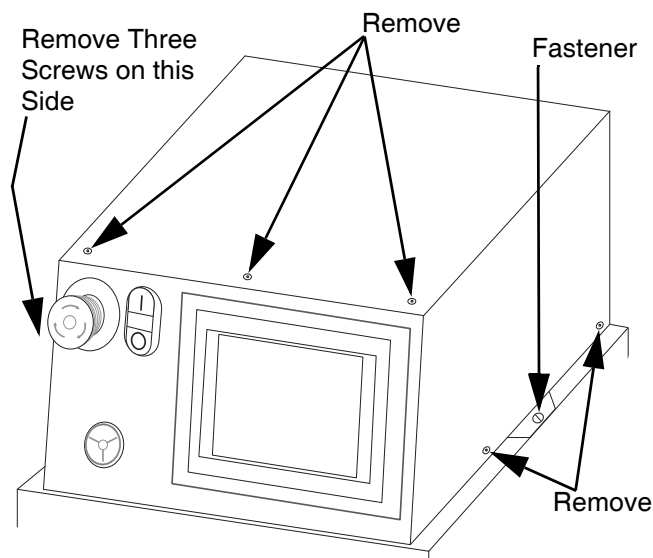

FIG. 2: Pneumatic Valve Control Box
4. *For the pneumatic valve PD44 control box*, remove the eight button head cap screws holding the top cover of the electric box. See Figure 2.